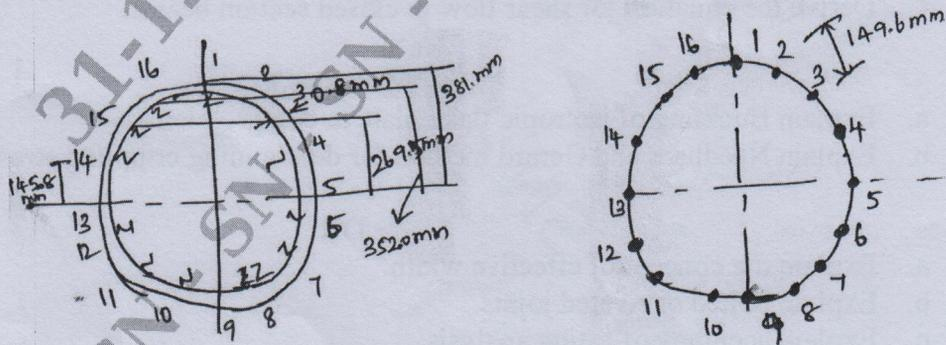

Fig. Q10
10. The fuselage of a light passenger carrying aircraft has the circular cross section shown in Fig. Q10. The cross sectional area of each stringer is 100 mm^2 and the vertical distance given in Fig. Q10 are to the mid-line of the section wall at the corresponding stringer position. If the fuselage is subjected to a bending moment of 200 kNm applied in the vertical plane of symmetry, at this section, calculate the direct stress distribution. (16 Marks)